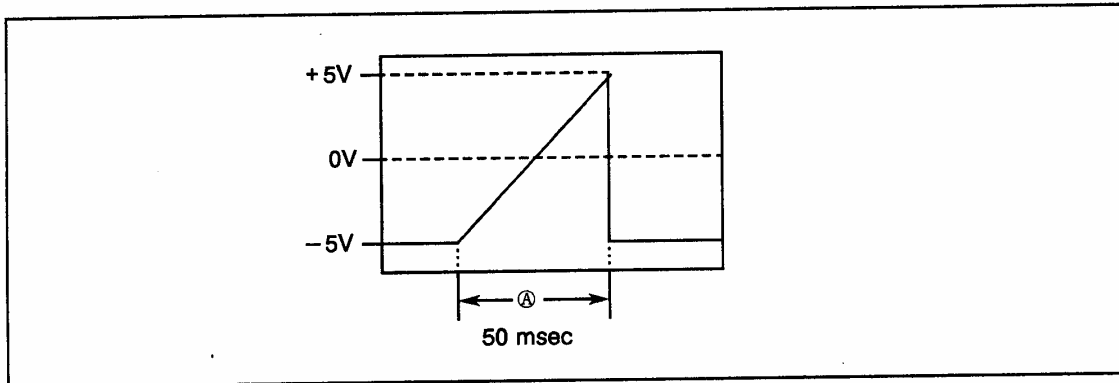

Figure 6-13 Output Waveform of Signal at Pin 2 of J7
- (6) Observe the signal of pin 2 (RAMP) of J7 on the oscilloscope and make sure that this signal has the same waveforms as shown in Figure 6-13.